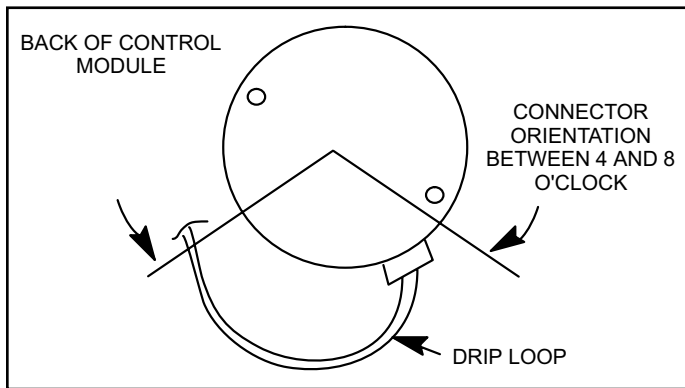

Figure 15. Drip Loop
5. The electrical connectors of the motor should be facing down to form a drip loop (Figure 15). This will direct moisture away from the motor and its electric connections on the motor.